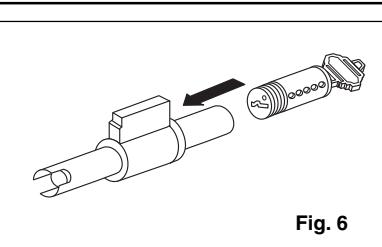

Fig. 6
1. To avoid pin spill, make sure cylinder plug is turned approximately 1/8 turn to the left or right so that cylinder pins, top pins and slot in follower do not align. Slowly push cylinder plug into place (Fig.6). **Note: keep consistent pressure against plug follower while sliding cylinder plug back into cylinder housing.**